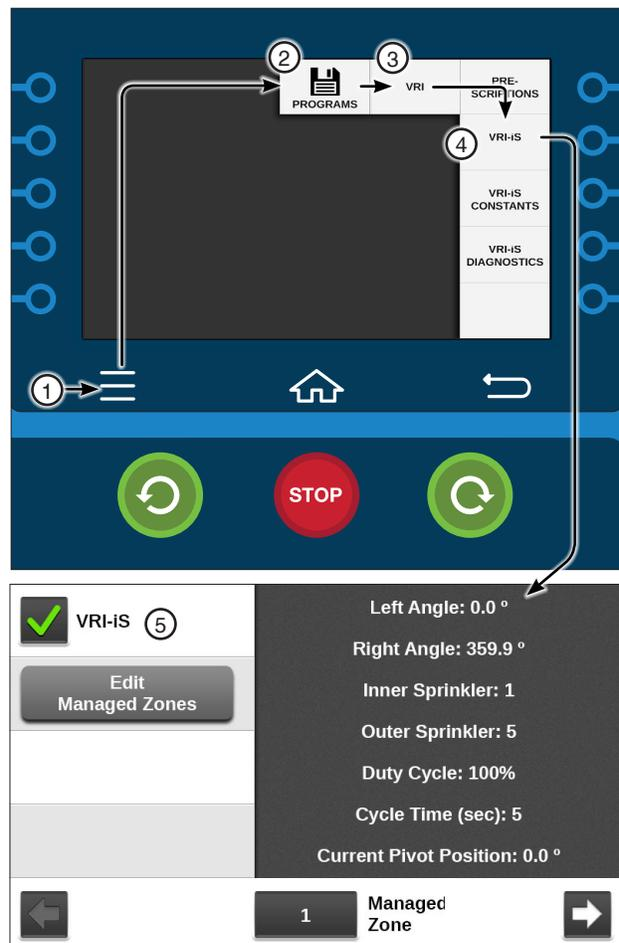

Figure 172-1 1. Menu
- Push **Menu**, **Programs**, **VRI** and **VRI-iS**. Refer to Figure 172-1.
1. Push **Menu**, **Programs**, **VRI** and **VRI-iS** for the VRI-iS screen. Refer to Figure 172-1.